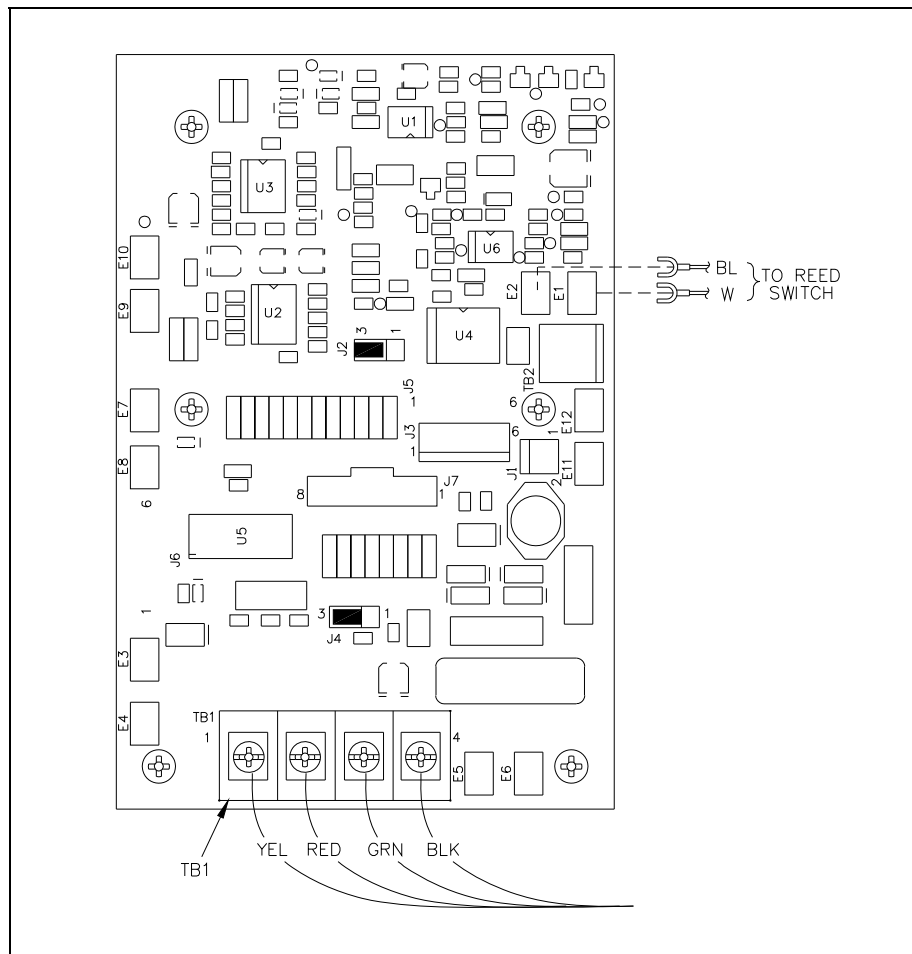
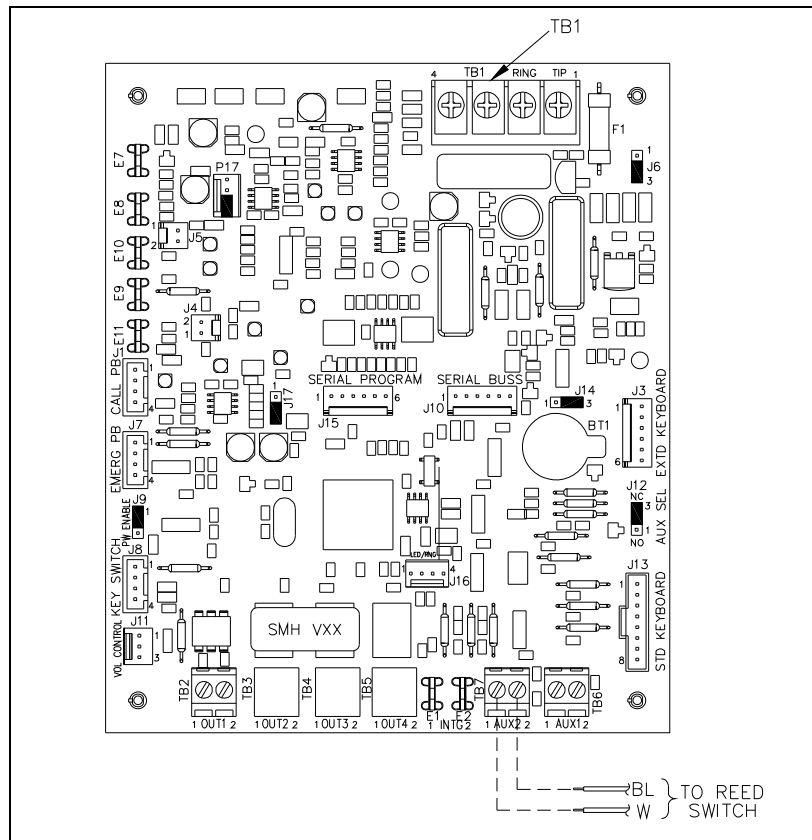
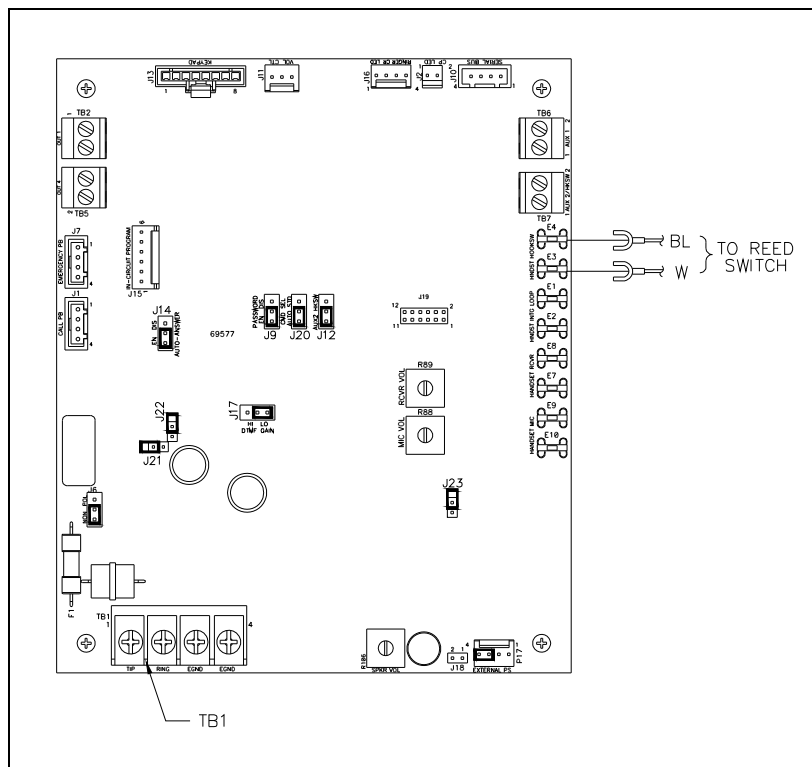
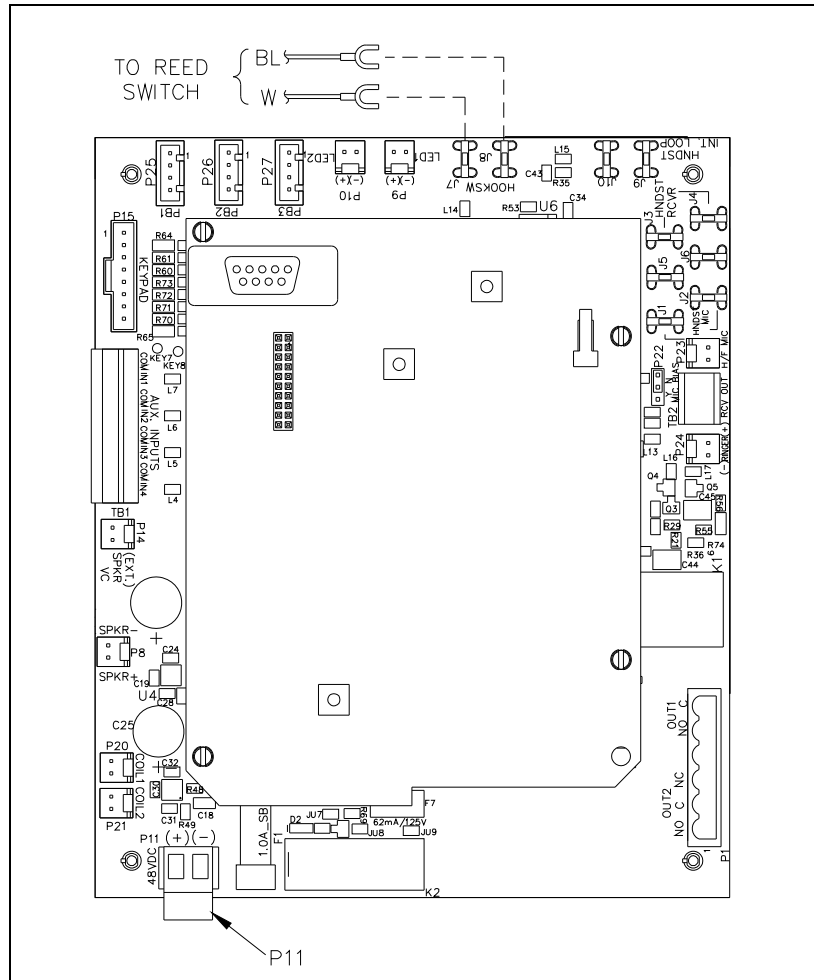

Figure 3. Models with -001 suffix
Figure 4. Models with -003 suffix
Figure 5. Models with -005 suffix
Figure 6. Models with suffix -700
3. Remove all wires from TB1 on models with the suffix -001. Remove the red (Ring) and green (Tip) wires from TB1 on models with the suffix -003, and -005. See Figure 3, Figure 4 and Figure 5, respectively. Unplug P11 power plug on models with the suffix -700. See Figure 6.
4. Disconnect the blue and white reed switch wires from the PCBA. The location will vary depending on model. See Figure 3 through Figure 6 for the location on your specific model.
17. Plug spades on the blue and white wires into the appropriate E-clips on the PCBA. For models with the suffixes -001, -005, and -700, see Figure 3, Figure 5 and Figure 6, respectively. For models with the suffix -003, clip off the spade lugs and strip the wire ¼ inch and install the leads into terminal block TB1 on the PCBA. See Figure 4.
19. For models with the suffix -001, reconnect wires to TB1 as shown in Figure 3.